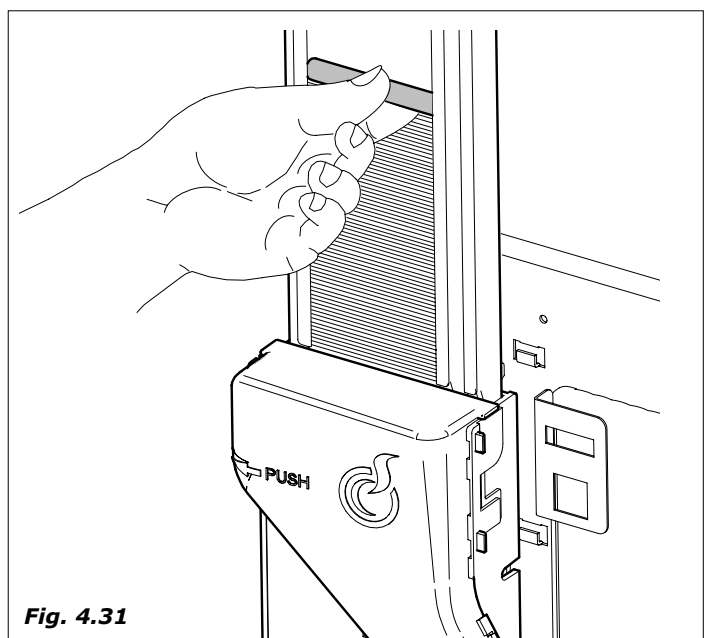

Fig. 4.31
- Check that the spoon are cut burr-free, that they are not bent and that they are all placed horizontally (Fig.4.31).